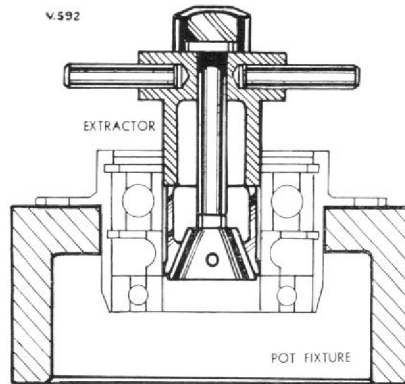

Fig. 7. Pot fixture T.74757 and extractor T.74759 for removing the upper bearing from lower driving gear bearing housing.
5. Pass the expanding collet end of extractor T.74759 through the bore of the first ball bearing and align it with the spacer, just clear of the lower ball bearing. Tighten the centre nut of the extractor to expand the collet within the bore of the spacer, and press down the extractor by hand to push out the lower ball bearing, Fig. 7.